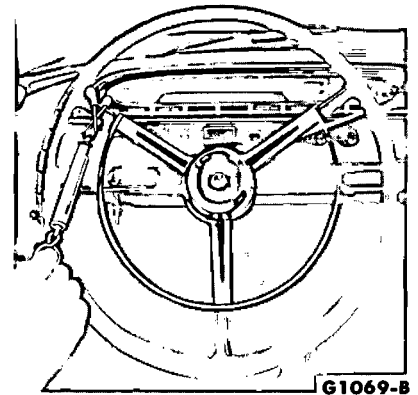

FIG. 1—Checking Turning Effect—Typical
3. Attach a pull scale to the steering wheel (Fig. 1). Check the effort required to turn the wheel at least one complete revolution in both directions. See Part 6-3 for the specified torque which should be approximately equal in both directions.